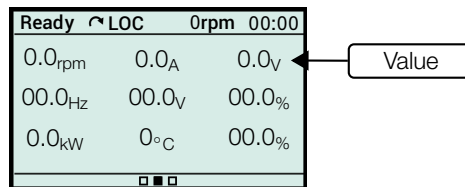

Figure 8.14: Slot view.
- Slot:** The HMI screen is divided into 9 parts called Slots and allows viewing reading variables in the format **value**. Figure 8.14 shows a view example.